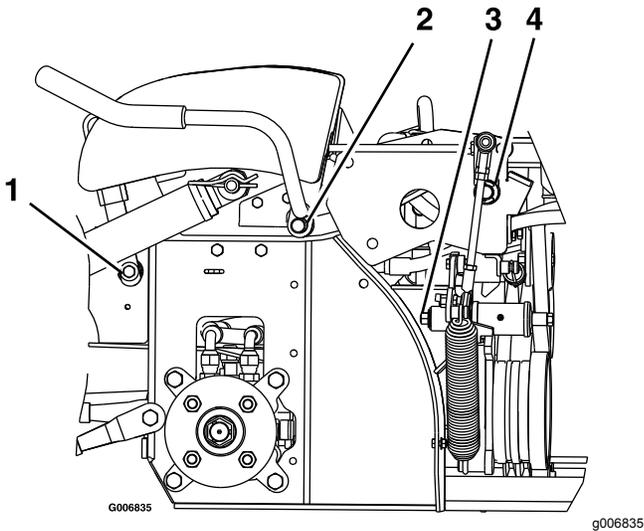

Figure 33
2. Lubricate the bronze bushings on the brake-handle pivot with a spray type lubricant or light oil (Figure 33).